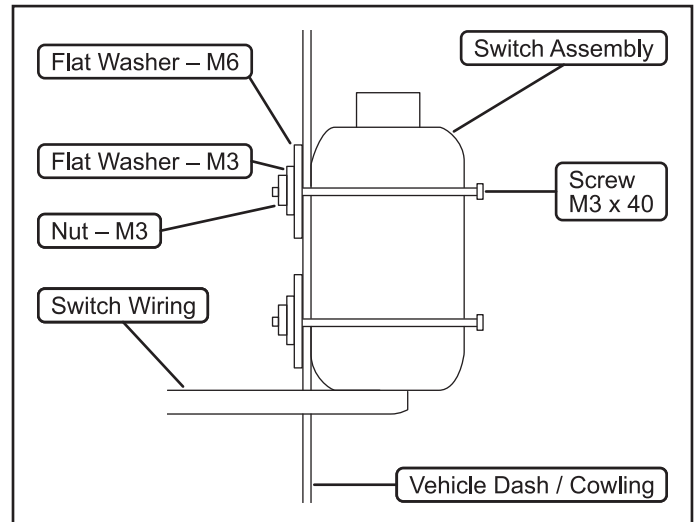

Figure 12. Optional switch mount instructions
- If your winch includes a handlebar rocking switch, replace the handlebar mount hardware with the included hardware kit DASHHW-OT to mount to the dash. See figure 12.